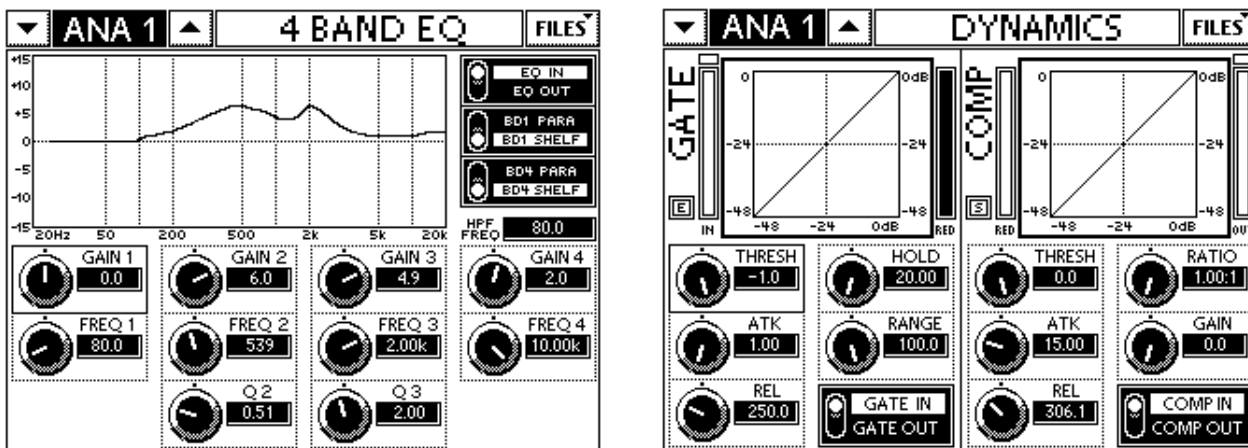

Figure 2-7 4-BAND EQ (left) and Dynamics Touchscreens
1. With channel 23 and 24 selected, press the **EQ** button in the QuickMix area to display the 4-BAND EQ Touchscreen (Figure 2-7).
4. Press the **DYN** QuickMix button to display the DYNAMICS Touchscreen (Figure 2-7).